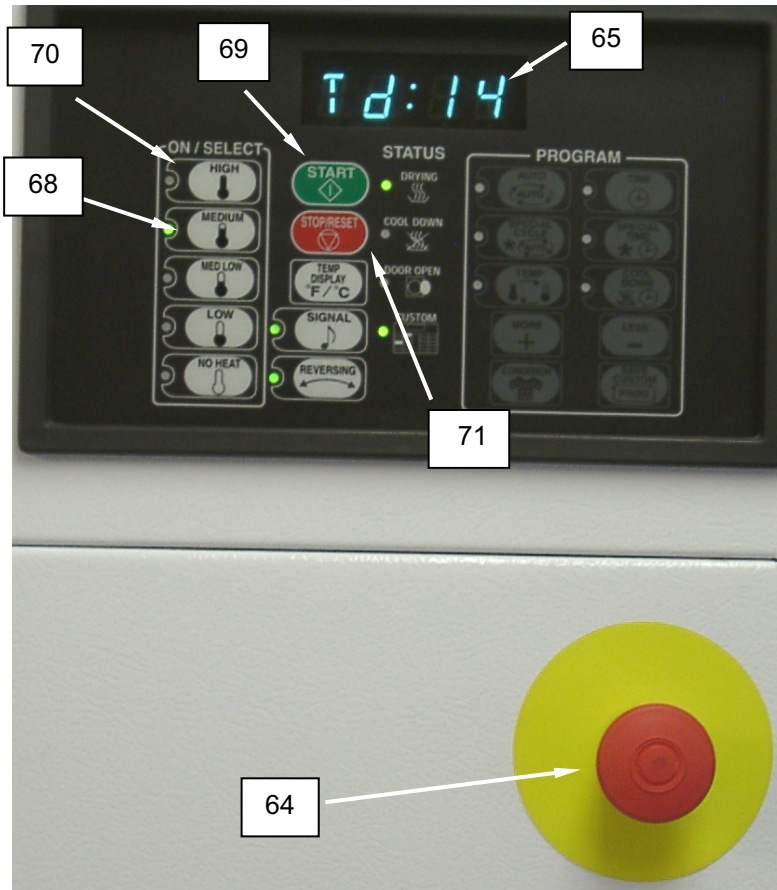

Figure 28. Operate the Dryer.
Pull the emergency stop (**Figure 28, Item 64**) out to allow the dryer to function. The dryer display (**Figure 28, Item 65**) will still be lit if the emergency stop is pushed in. If the dryer display is not lit, pull out on the emergency stop and select a drying temperature. This will cause the display to light.
1. To activate a preprogrammed drying cycle, open the dryer door (**Figure 28, Item 66**) and fill the dryer with no more than 50 lbs. of wet clothing (approximately 18 complete sets of BDU's). Ensure that the clothes do not prevent the door from closing. Use the door handle (**Figure 28, Item 67**) to close the dryer door securely, but do not slam. Do not press on the dryer door glass.
2. To dry BDU's, press the Medium key (**Figure 28, Item 68**) twice, then press the START key (**Figure 28, Item 69**). The dryer will start, run for the pre-programmed amount of time, and stop automatically. The remaining drying time and cool down time will be shown in the display (**Figure 28, Item 65**).
3. To dry Linens or Colored Linens, press the HIGH key (**Figure 28, Item 70**) twice, then press the START key (**Figure 28, Item 69**). The remaining drying time will be shown in the display (**Figure 28, Item 65**).
4. Do not open the dryer door (**Figure 28, Item 66**) when the dryer is running. To pause a drying cycle, use the STOP key (**Figure 28, Item 71**). Press the START key (**Figure 28, Item 69**) to resume the cycle.
6. When the cycle is complete, an alarm will sound and LR will show in the display (**Figure 28, Item 65**). Remove the clothes and place in a clean laundry basket for folding in the TEMPER work area.